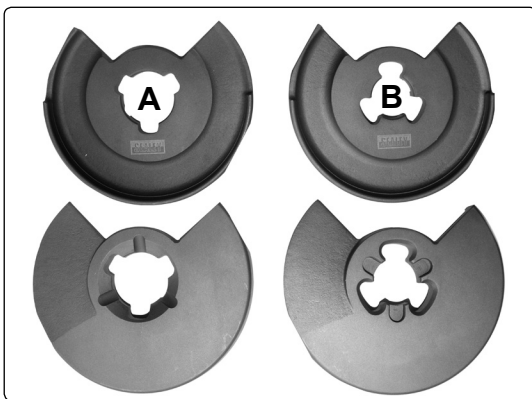

Fig.2
- 4.3. Insert the jaw (FIG.2-A) into the lower spring windings.
- 4.4. Insert jaw (FIG.2-B) into the upper spring windings. Ensure that the spring windings sit between the inner and outer rims of the jaw.